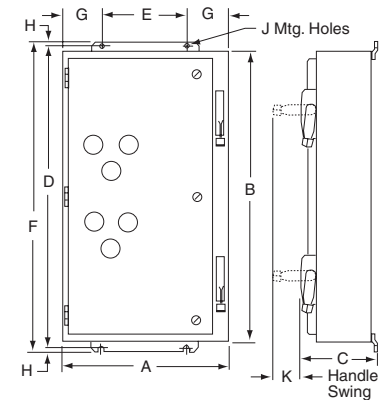

Figure 4
**Table 16.251: NEMA 4 Enclosure—Combination (Figure 4)**
**Table 16.253: NEMA 12/3R Enclosure—Combination (Figure 4)**